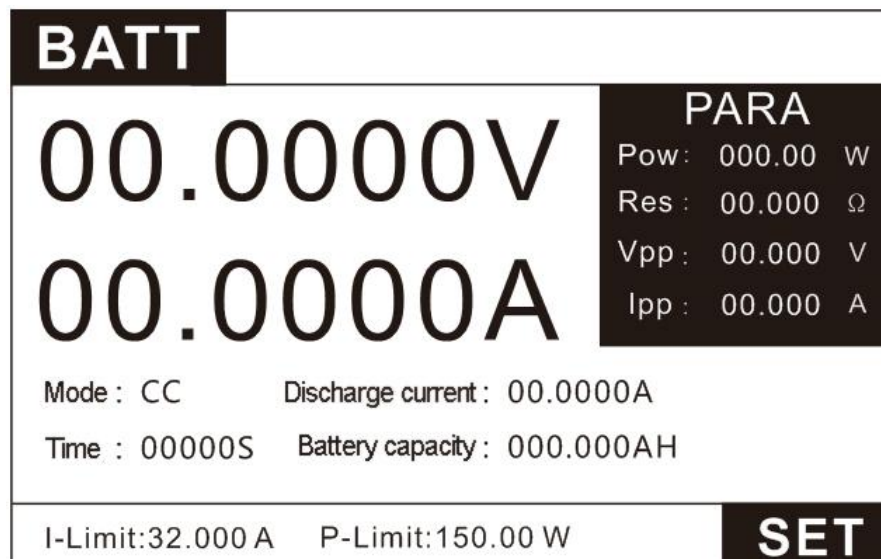

Figure 3.21 Battery mode test Page
1. Press the key  to enter the mode selection page, press the up and down keys to select BATT, and press the key  to enter the BATT test interface, as shown in Figure 3.21.
2. In Figure 3.21, press the key  to enter the setting interface, as shown in Figure 3.22.